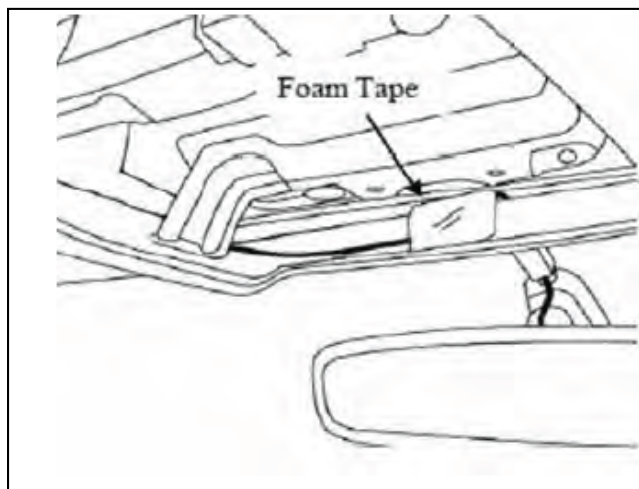

Figure 11
11. Secure the harness to the front center of the headliner with one (1) piece of foam tape. See Figure 11.